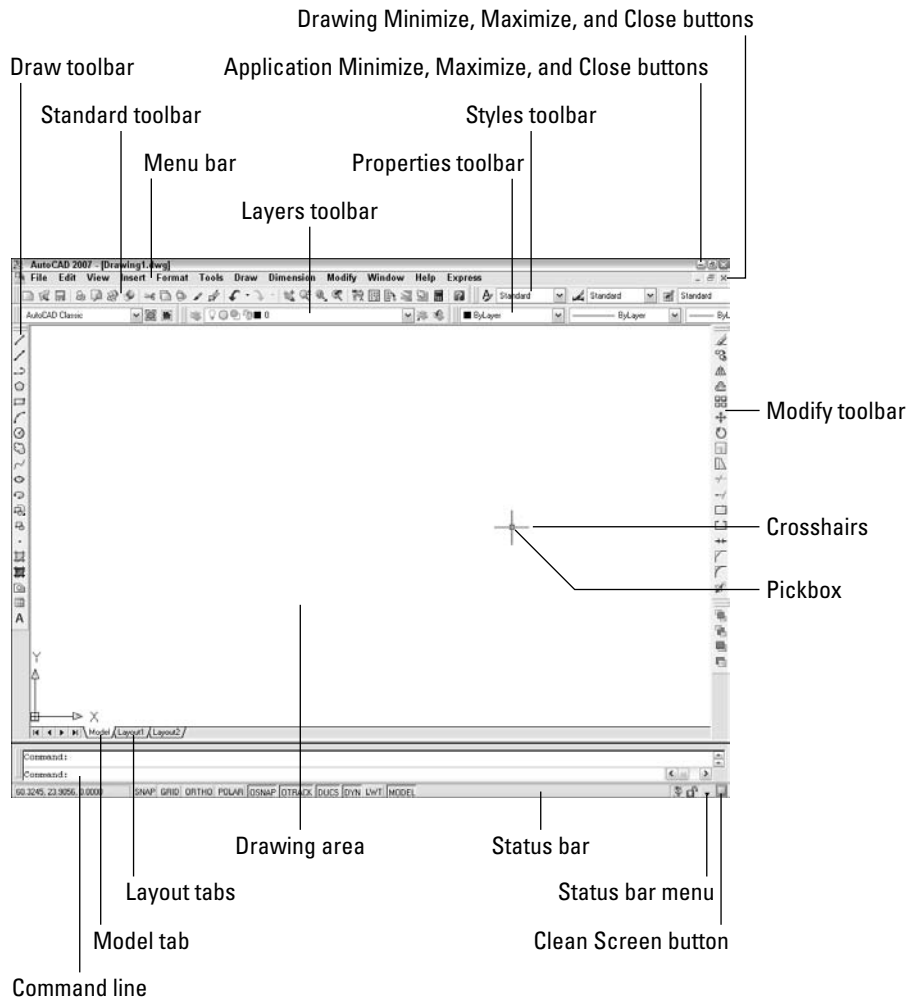

**Figure 1-2:** The AutoCAD and AutoCAD LT screens are very similar.
Figure 1-2 shows the screen that appears when you first open AutoCAD using the AutoCAD Classic workspace or AutoCAD LT. Your screen may look somewhat different — remember that AutoCAD and AutoCAD LT can be customized in many ways — but the general features will be the same.
You may see several other items on your screen, such as the Tool Palettes window, the Sheet Set Manager, the Info Palette, and so on. You can close all these items by clicking their Close (X) button. I discuss these tools throughout the book, as they relate to the current topic. Also, by default, the screen is black, rather than the white screen you see in Figure 1-2. You can leave it that way or change the drawing area color, as I explain in Appendix A.
Notice the symbol with two arrows in the drawing area in Figure 1-2. This symbol is called the User Coordinate System (UCS) icon. The arrows point to the positive directions of the X and Y axes to help you keep your bearings. (In a 3D environment, you see a Z axis, as well.)
In the drawing area of Figure 1-2, notice the intersecting lines with a small box at their intersection. The small box is called the *pickbox* because it helps you to select, or pick, objects. The lines are called *crosshairs*. They show you the location of the mouse cursor in relation to other objects in your drawing.
At the top of your screen is the title bar, and directly beneath the title bar is a menu bar. Below that are one or two rows of toolbars. In addition, your screen displays two more toolbars, the Draw and Modify toolbars, which are probably docked at the left and right sides of the screen (refer to Figure 1-2). Use the menus and toolbars together to give AutoCAD or AutoCAD LT commands to draw, edit, display information, and so on. I explain how to manage toolbars in Chapter 3, in the “Using toolbars” section.
At the very bottom of the screen is the *status bar* (refer to Figure 1-2). At the left are the X,Y coordinates. As you move your mouse, these coordinates change. (If they don't change, click them and move your mouse again.) The status bar also contains several buttons that I explain later in this book.
7.  For your second line, choose Line from the Draw toolbar. (Figure 1-2 labels this toolbar.) Again, pick any point on the screen.